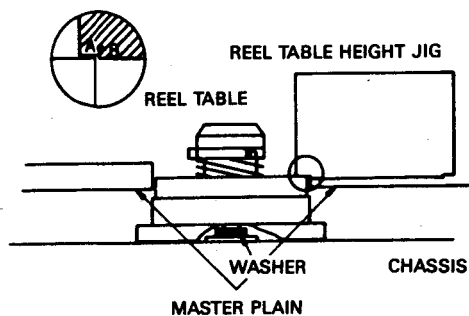

Fig.1
1. Remove the top and bottom cover. (See Figs. 1, 2)
1. Follow the procedures for removing the panels. (See Figs. 1 to 3)
The height of the supply and take-up turntables should be the same, $+0.2/-0.2$ mm. Turntable heights are adjusted by changing plain washer stack under each turntable. Check turntable heights by installing the Master Plain. Set the reel disk height jig in place and check the height of the supply and take up turntables. (See Fig. 1) The size of washer is 0.5mm (3.2 mm ID). This washer should be used to achieve equal reference heights for both turntables.
For proper height point "A" should slide over the reel disk and point "B" should not. (Fig. 1)